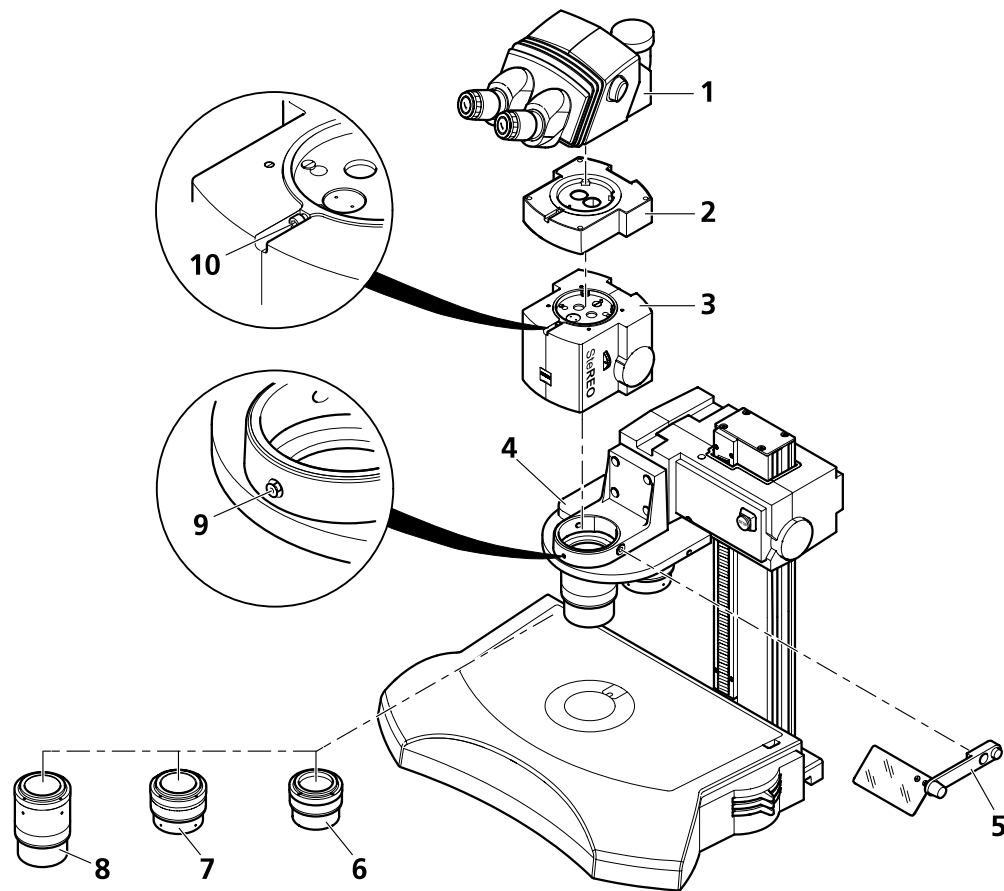

Fig. 16 Installing the microscope
- Verify that the grub screw (SW 3) on the carrier or objective nosepiece (Fig. 16/9) does not project into the opening of the holder. Turn it counterclockwise by a few turns, if necessary, using the ball-headed screwdriver (but do not fully unscrew it!).
- Put the microscope body (Fig. 16/3) into the mount (Ø 76 mm) of the carrier or objective nosepiece (Fig. 16/4) and align it.
- Fasten the grub screw (Fig. 16/9) on the carrier or objective nosepiece hand-tight.
Order of installation: At first, install the shortest objective (Fig. 16/6), then the medium one (Fig. 16/7) and finally the longest one (Fig. 16/8). To remove the objectives, proceed reversely.
- Take up the objective (Fig. 16/6) with both hands and screw it counterclockwise into the microscope body or objective nosepiece (upside down right-hand thread).
- Insert binocular tube (Fig. 16/1) in dovetail mount and clamp it by screwing down the Allen screw (Fig. 16/10) hand-tight using the ball-headed screwdriver.
-  You can use up to two 40 mm high intermediate tubes (Fig. 16/2) to increase the viewing height by a maximum of 80 mm. Clamp them in the same way as the binocular tube.
-  To avoid being dazzled in transmitted light, fix the dazzle protector (Fig. 16/5) to the carrier or the objective nosepiece (Fig. 16/4) and swing it in.